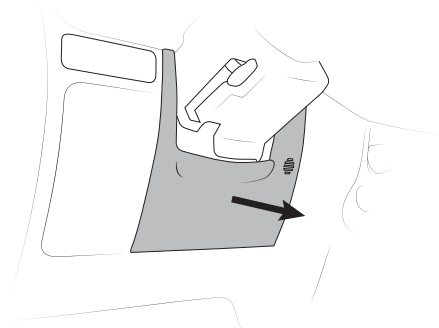

Figure 4
12. Remove the knee block trim located under the steering wheel (fig. 4).